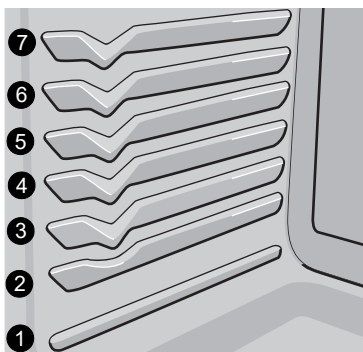

Figure 2: Oven rack positions
- For best results when baking cookies using two oven racks, place racks in positions 3 and 6 (See Figure 2).
- For best results when baking cakes using two oven racks, place an offset rack in position 3 and a flat rack in position 6 (See Figure 2).